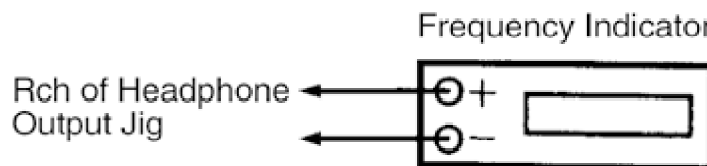

Fig. 12
1. Connect a frequency indicator. (Cf. Fig. 12)